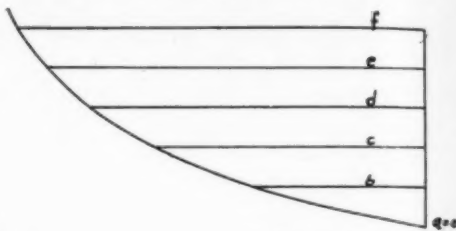

Fig. 18.
(2) $A = s (0 + 1.1b + c + d + e + 1.1f + 0)$. Again the rule might be applied to Fig. 18, where one ordinate is zero.
between stations. The result would be displacement in cubic feet. We start out by applying rule (3) to the different stations one at a time. Note Fig. 18. This is station 6 taken from the body plan of the design Part I. The portion between the L. W. L. and the rabbet line is divided in seven parts (five might do as well) and the rule (3) applied as follows: (In a curve, such as Fig. 18, when the curve is very sharp and the area small the stations should be spaced close together as I have shown here)
EXAMPLE I (Fig. 18).